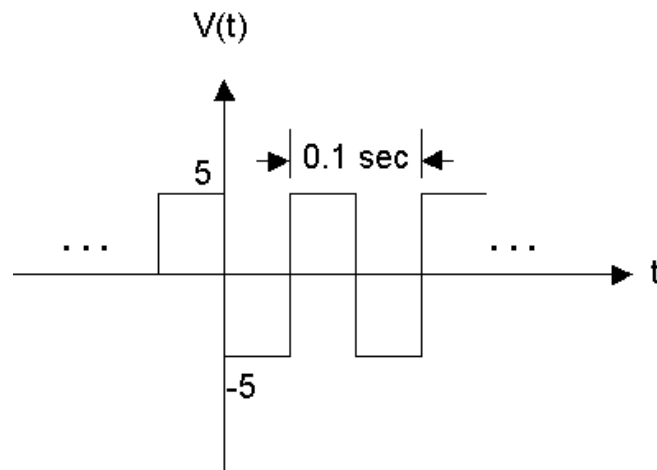

Figure 7. Diagram of desired output from the signal generator for Part 3.
3.1 Configure the **Function Generator** to produce a **10 Hz square wave** with **± 5 volt (10 V peak-to-peak)** amplitude, as in Figure 7 below. Verify the signal on the oscilloscope using a BNC to BNC connector.